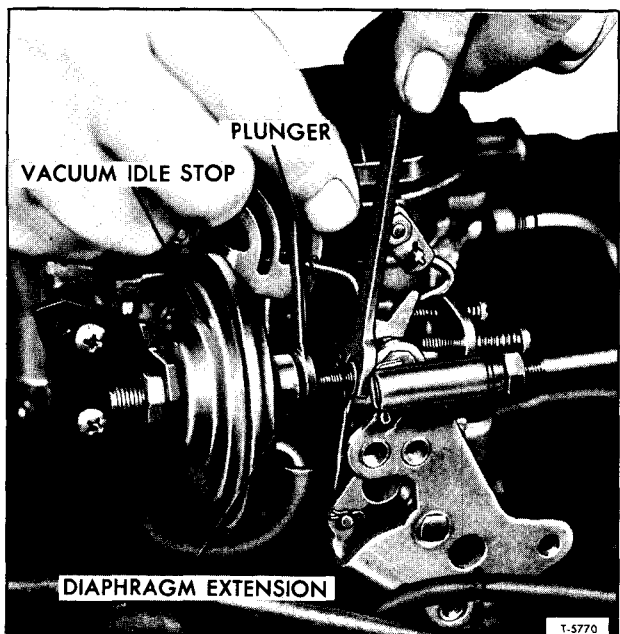

Figure 8—Adjusting Vacuum Idle Stop
- a. Referring to figure 8, place a 1/4-inch open end wrench on diaphragm extension of vacuum idle stop to prevent its rotation while adjusting plunger.